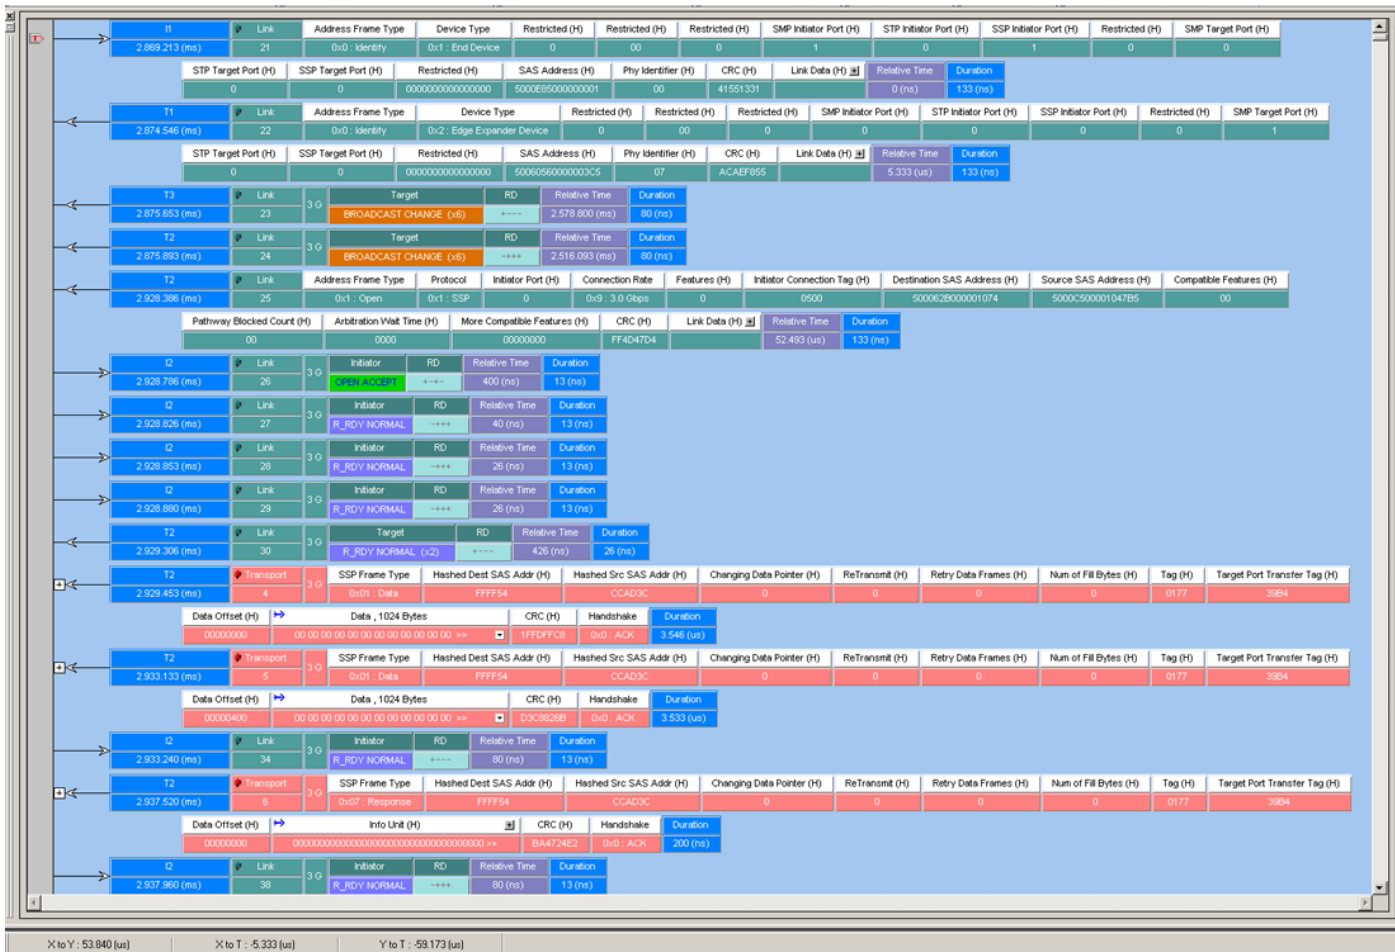

Figure 2.12: SAS: Analyzer Trace Capture Display
5. After the project runs, you see an analyzer trace capture display similar to the one shown in Figure 2.12.